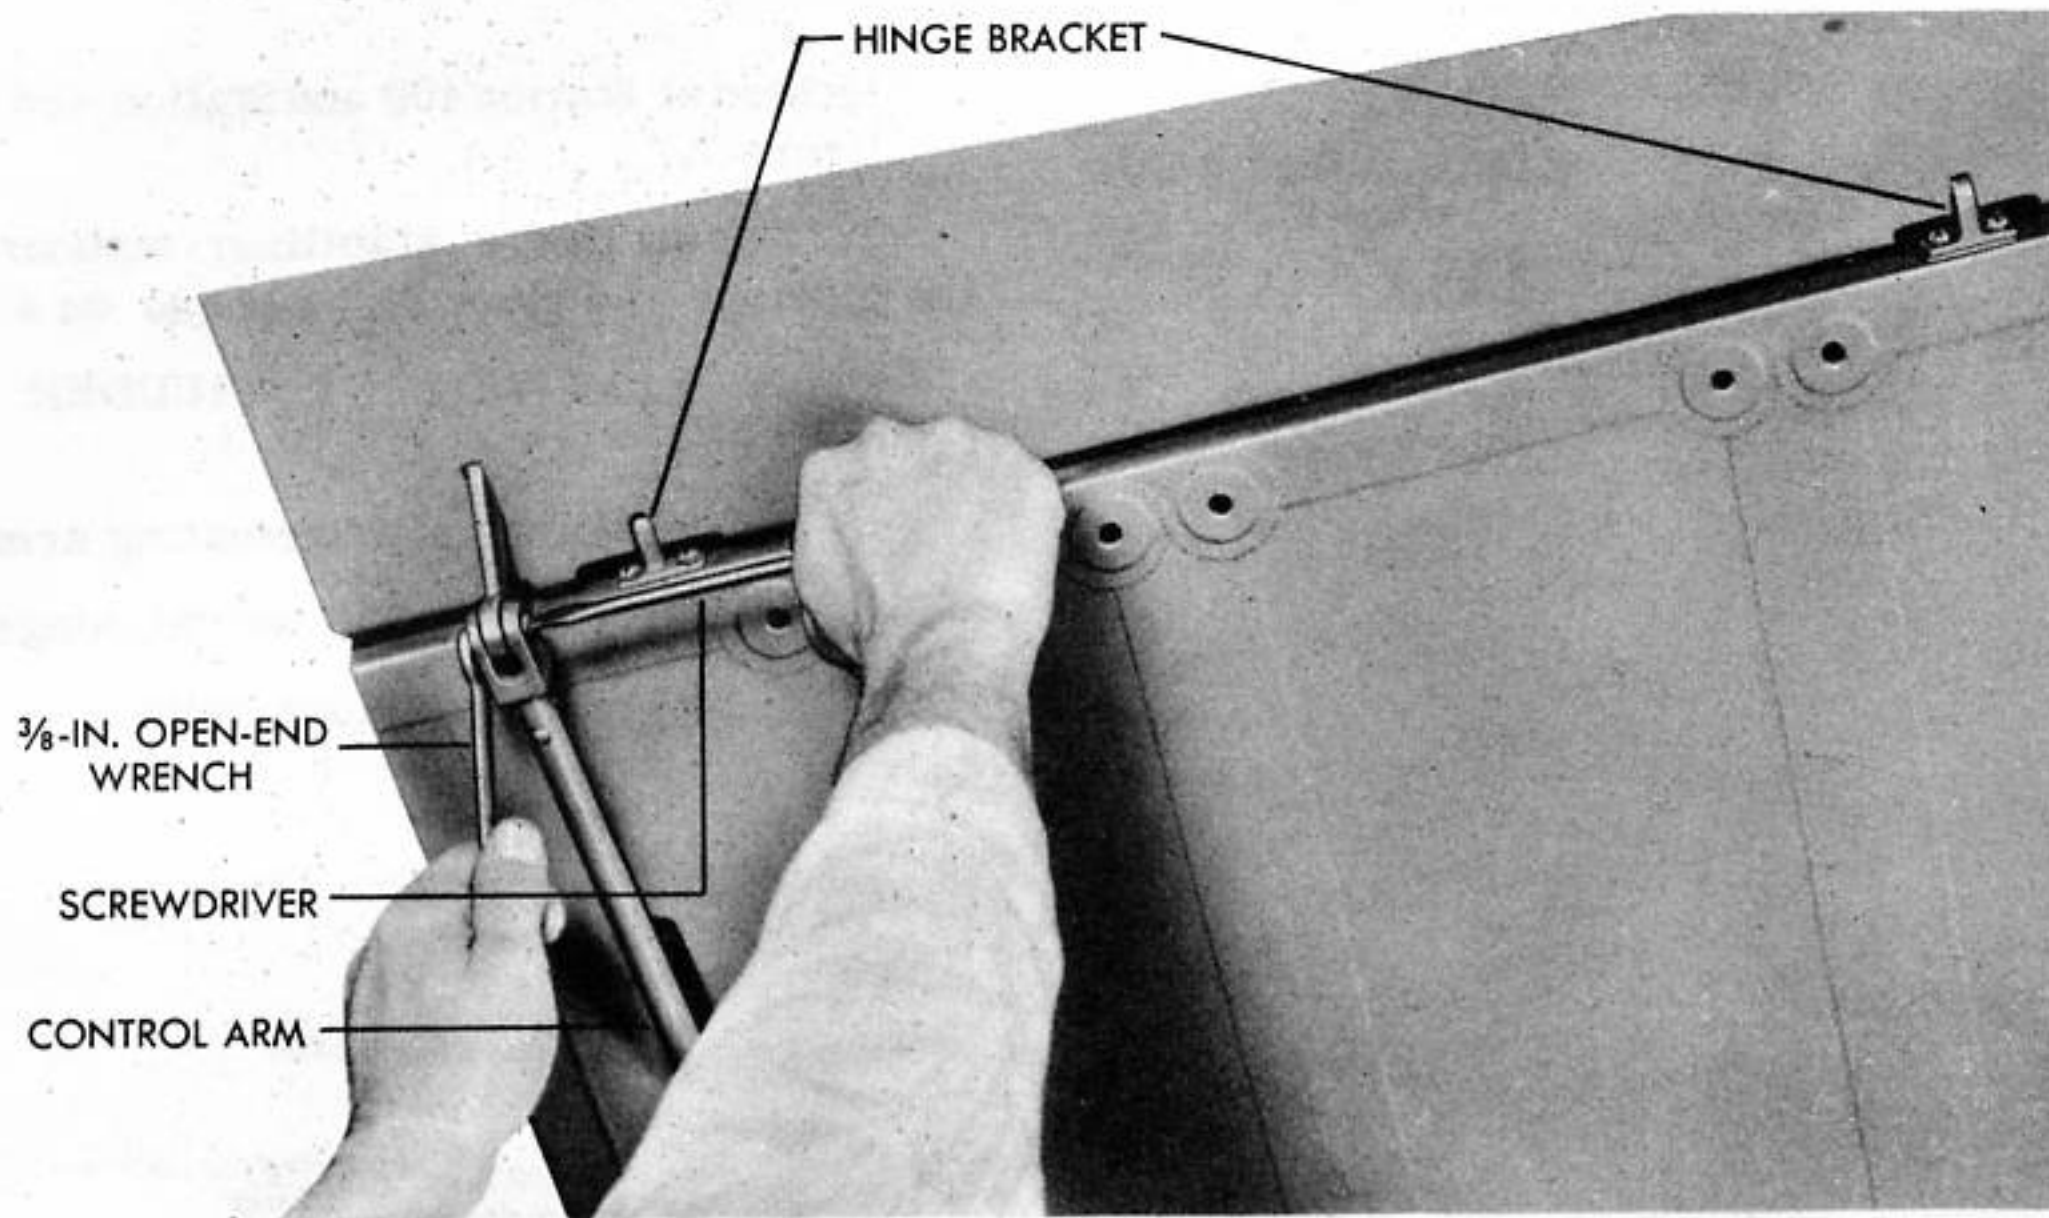
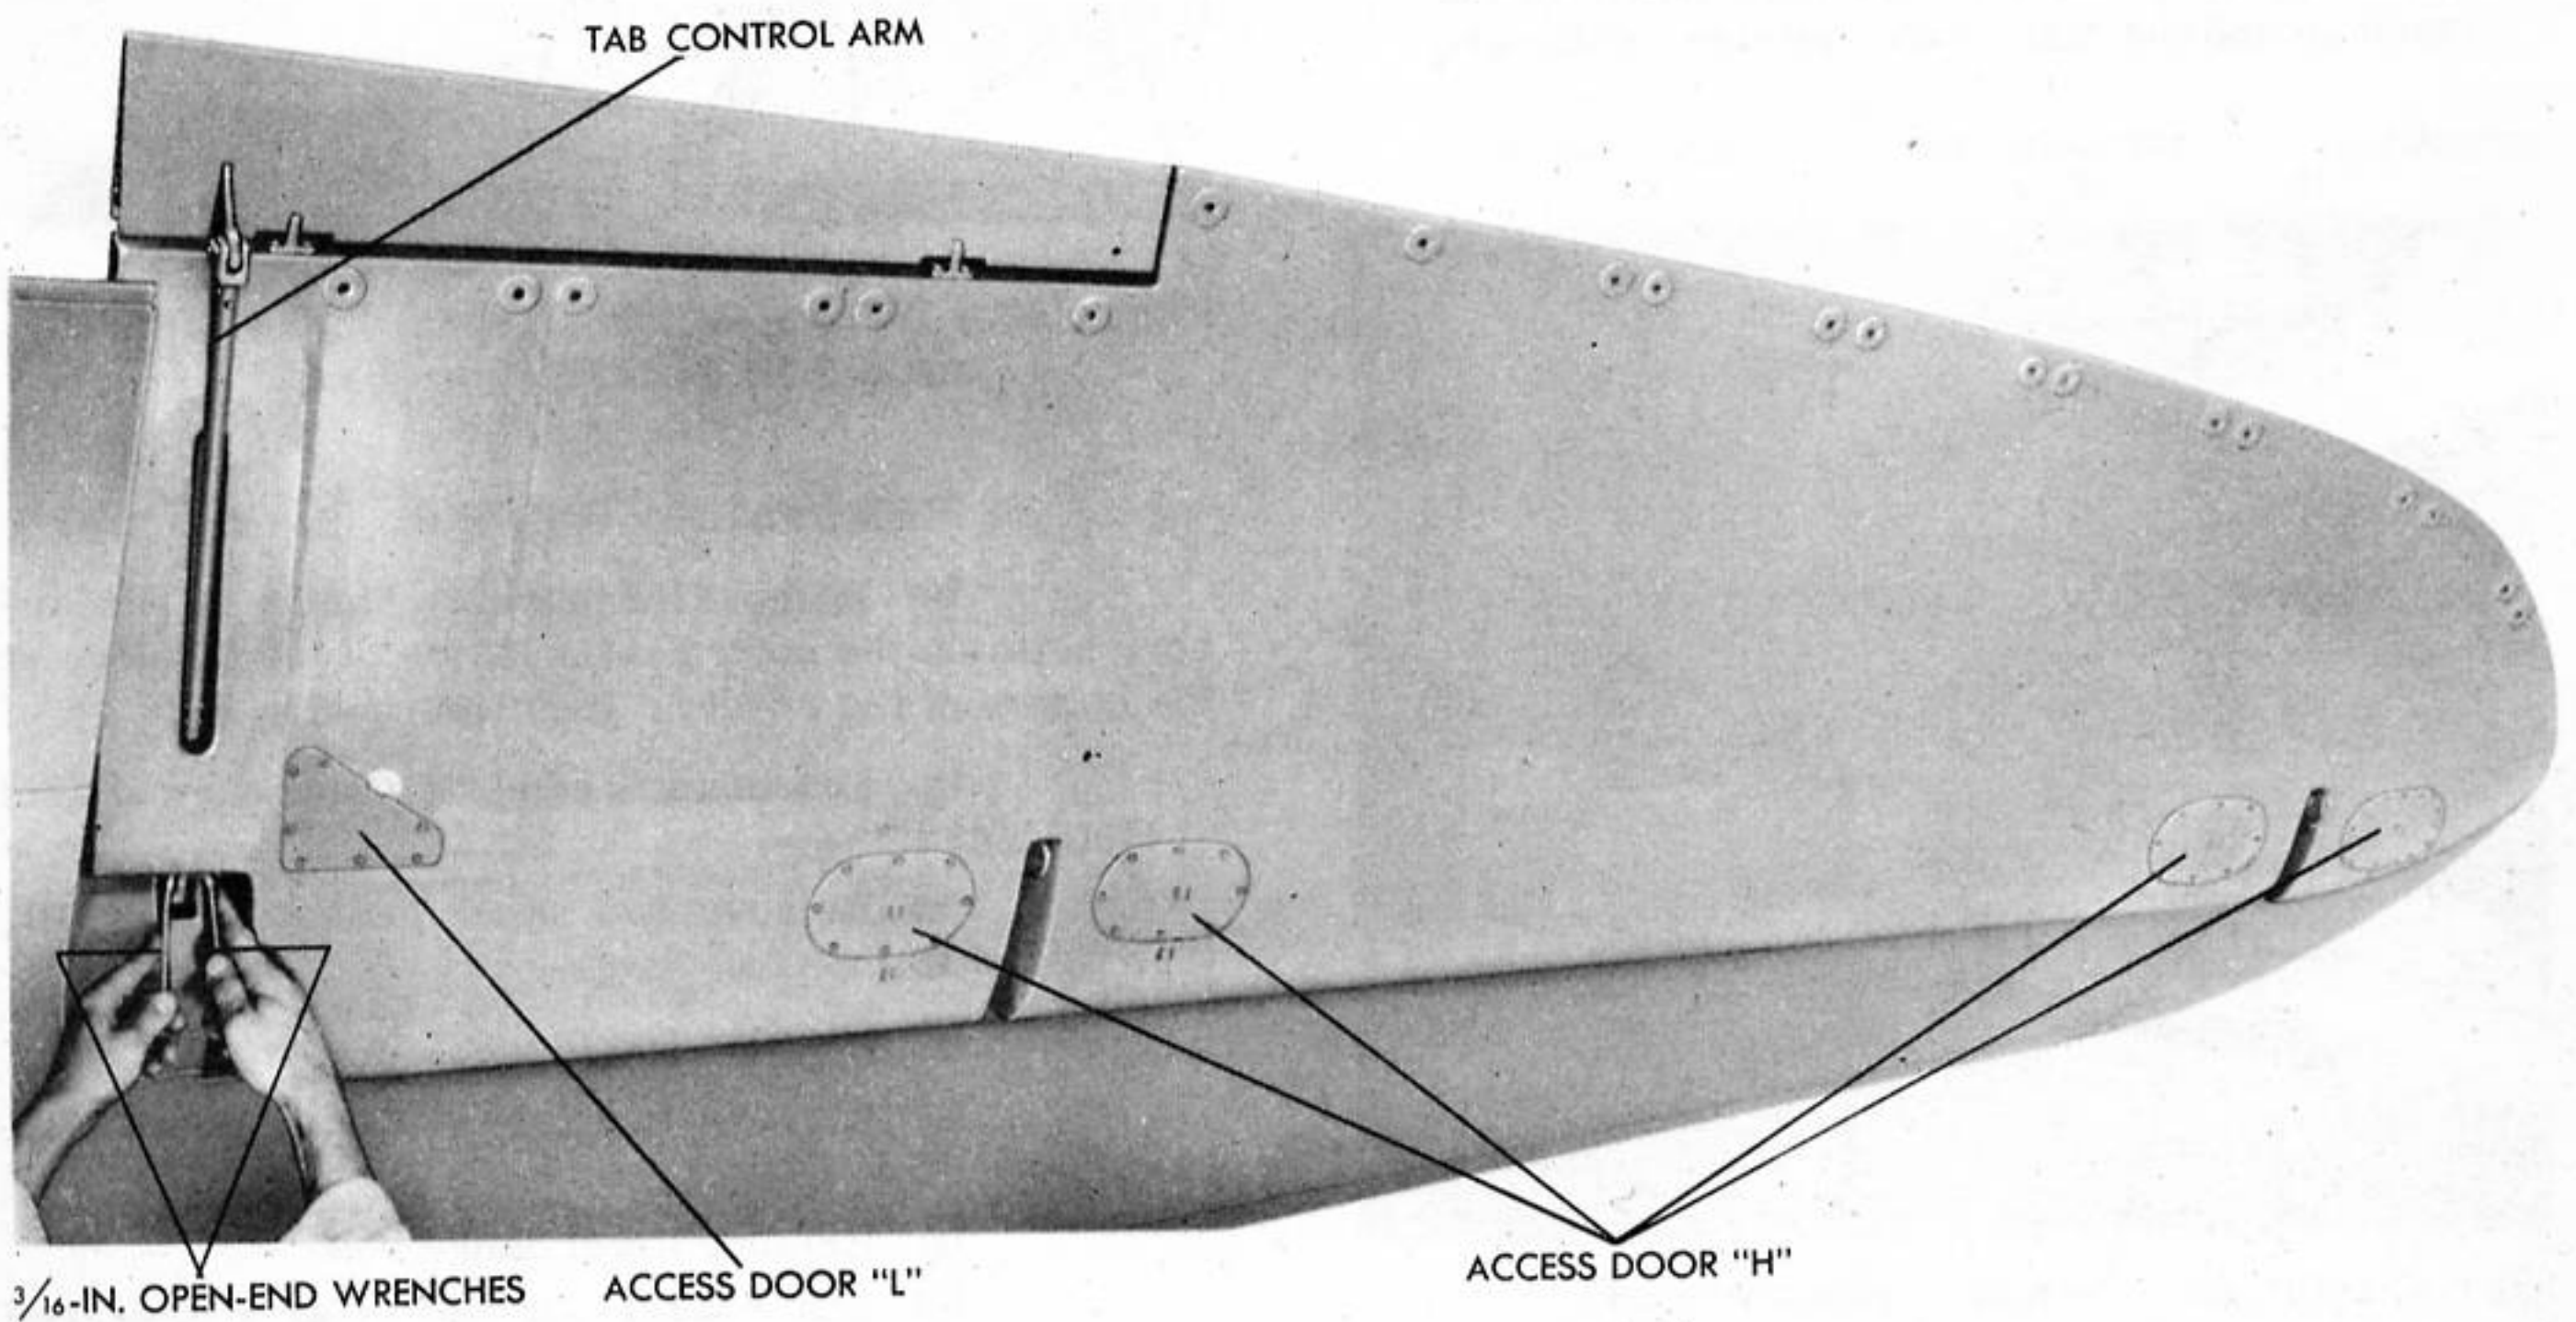

Figure 38 - REMOVING ELEVATOR TRIM TAB
Figure 39 - REMOVING ELEVATOR
(1) **REMOVAL OF ELEVATOR TRIM TAB.** (See figure 38.)
(2) **REMOVAL OF ELEVATOR.** (See figure 39.)
- (a) Remove triangular access door cover (L) at the elevator inboard end.
- (b) Remove elevator torque tube bolts through the triangular access door (L).
- (c) Disconnect the tab control arm. (See figure 38.)
(5) INSTALLATION OF ELEVATOR. (See figure 39.)
- (f) Replace access doors (H) and (L).
(6) INSTALLATION OF ELEVATOR TRIM TAB. (See figure 38.)